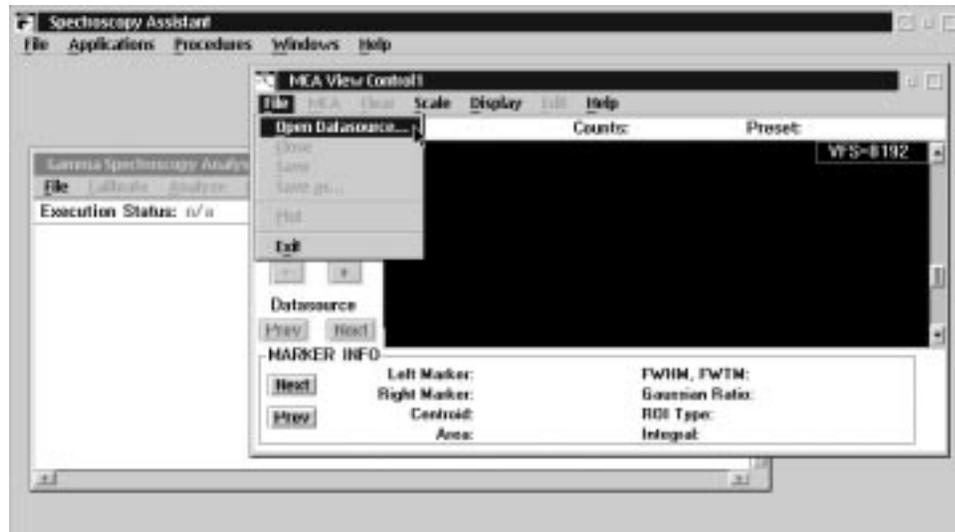

Figure 3. Window for opening a Datasource from within “MCA View Control.”
5. Return to “MCA View Control” by clicking on an exposed part of the window or by selecting that window using the “Windows” menu in the “Spectroscopy Assistant” menu bar. Then, using the File menu in “MCA View Control,” select “Open Datasource” as shown in Figure 3.